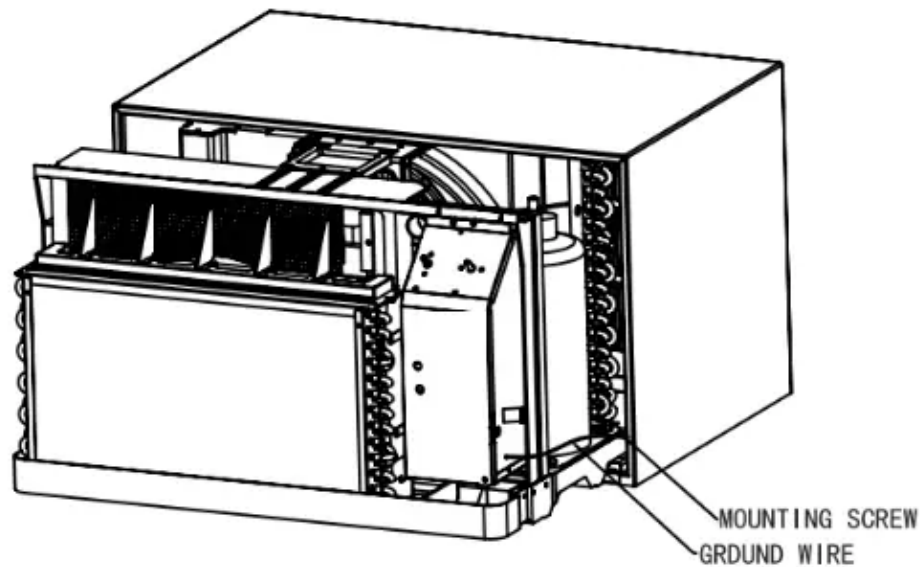

Figure 3
- A slight downward pitch from the indoor side to the outdoor side as shown in Figure 3.
2. Remove the grounding screw and wire next to the grounding symbol on right side of chassis control panel (Figure 3). Attach other end of ground wire to the hole in the bottom right side of the sleeve with #8 x 3/8" blunt point sheet metal screw.